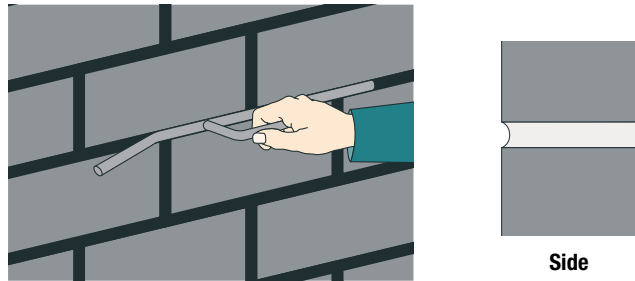

Fig B3 — Ironed Joint
- The finish is obtained by ironing the joints with an ironing tool when the mortar is firm to touch (about 20 to 30 minutes after laying) and then lightly scraping off the surplus mortar with a trowel, or by lightly brushing. Refer to Fig B3.